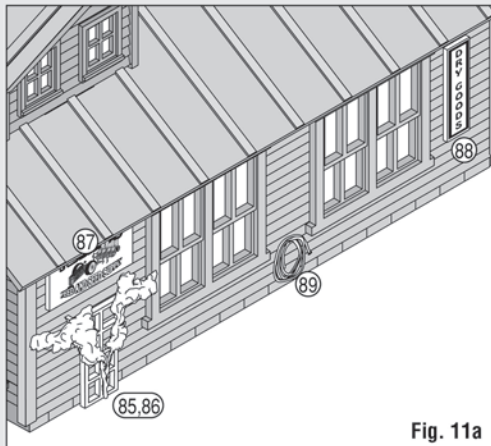

Fig. 11a
- Brush white glue heavily on all sides of branches of Plant (86). While glue is wet, dip into bag of Turf, making sure all sides are well coated. Let dry.
- Glue Placard (87), Placard (88) and Hose (89) (Fig. 11a).
- Glue Plant (86) to Trellis (85), then glue Assembly to Wall (Fig. 11a).